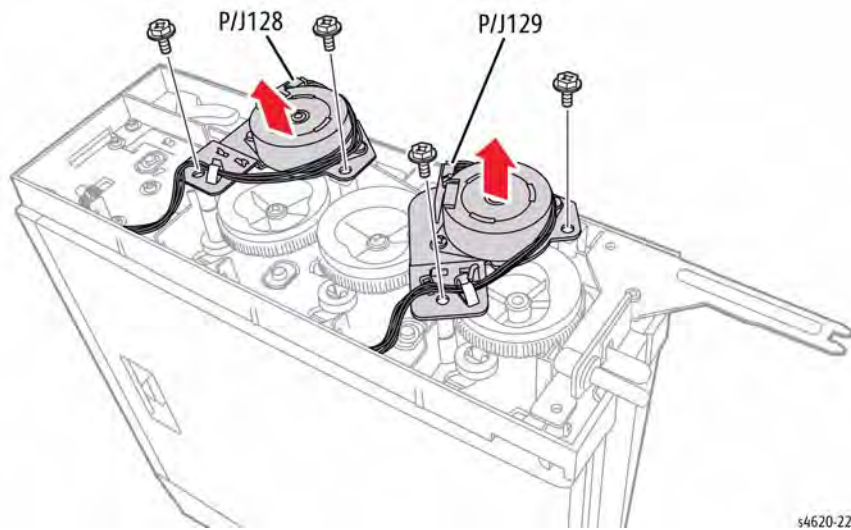

Figure 4 Mailbox Diverter Drive Assemblies
- Diverter Drive Assemblies, Figure 4.